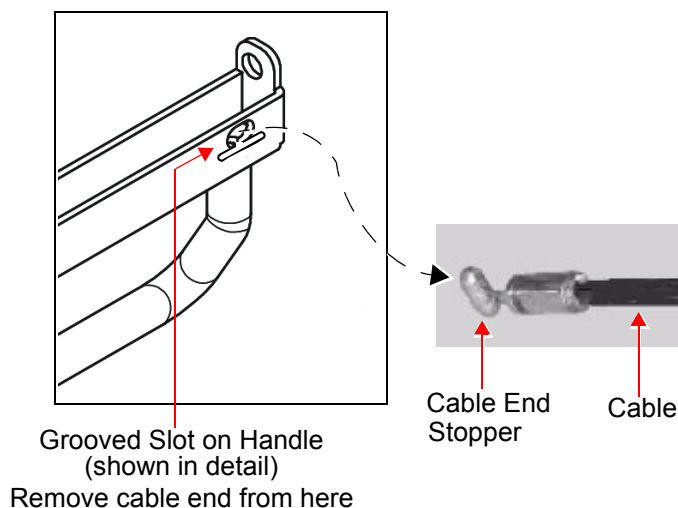

Figure 8-88 Detail of Cable End and Slot on Handle
- 6) Working from the *front* of the machine, insert the other cable end stopper into the through the grooved slot on the handle assembly carefully aligning the groove on the cable with that of the groove in the slot (refer to the detail shown in Figure 8-88 on page 8-101).
- 11.) Release the swivel release cable from the up/down handle by carefully sliding the cable end stopper out through the grooved slot on the handle assembly (refer to the detail shown in Figure 8-88 on page 8-101).
- 3) Working from the *front* of the machine, insert the cable end stopper into the through the grooved slot on the handle assembly carefully aligning the groove on the cable with that of the groove in the slot (refer to the detail shown in Figure 8-88 on page 8-101).
- 8.) Release the swivel release cable from the up/down/swivel handle by carefully sliding the cable end stopper out through the grooved slot on the handle assembly (refer to the detail shown in Figure 8-88 on page 8-101).
- 10.) Repeat step 8 to release the gas spring cable from the up/down/swivel handle (refer to the detail shown in Figure 8-88 on page 8-101).
- 4.) Insert the gas spring cable end stopper through the grooved slot on the handle assembly carefully aligning the groove on the cable with that of the groove in the slot (refer to the detail shown in Figure 8-88 on page 8-101).